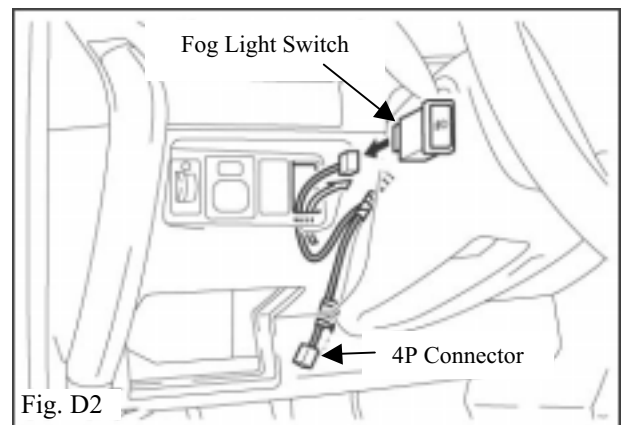

Fig. D2
- ➔ 3. Locate the 4P connector secured with vehicle wire harness as shown. Pull the 4P connector through opening. (Fig. D2)
4. Connect the 4P connector to the fog light switch. (Fig. D2)
- ➔ 5. Correctly orientate switch in hole as shown. (Fig. D2)